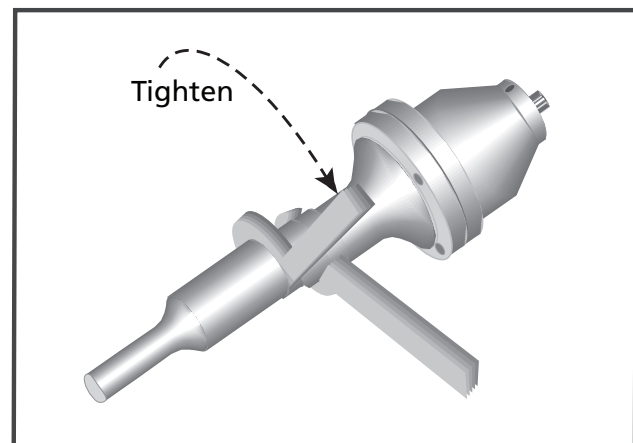

Figure 6–4 Stack Assembly Procedure
6. Thread the components together and tighten to the following torque specifications using only the correct size wrenches. Use spanner wrenches on components with spanner wrench holes or an open end wrench on components with wrench flats. See Figure 6–4 for the correct procedure. Refer to Table 6-III for torque unit conversions. Be careful not to overtighten.